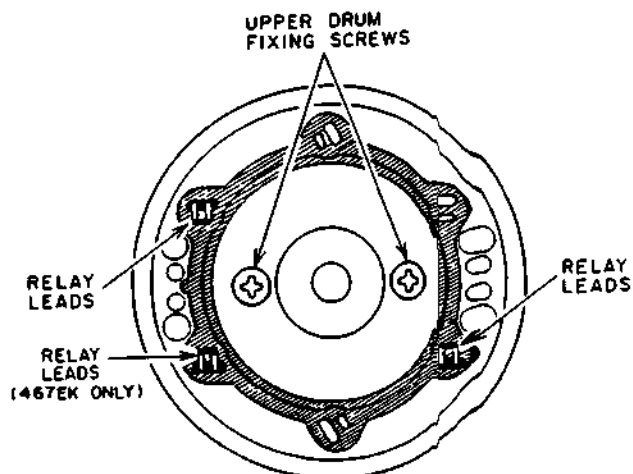

Fig. 4-19
- 1) Unsolder the four or six (**VS-467EK** only) relay leads and remove the two upper drum fixing screws as shown in Fig.4-19.